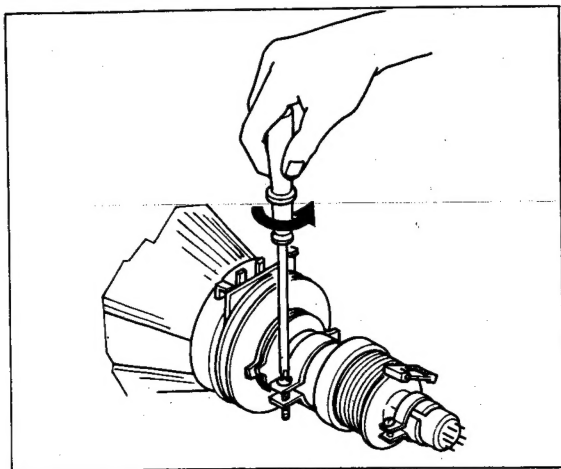

Fig. 3-2. Deflection yoke loosening
- (2) Loosen the screw as shown in Fig. 3-2.